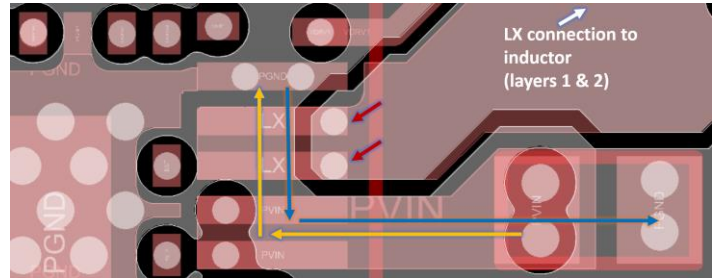

Figure 6: Layout example using layer 2 in parallel with top layer for the LX connection to the inductor (not shown, to upper right)
Sometimes a wide LX trace in the top layer is not feasible yet efficiency must be maximized. In this case, layer 2 (nominally the ground plane) is used to help share the current with a parallel connection to the inductor. Figure 6 shows an example. Use as little of the ground plane as possible as needed to reduce resistive losses. Note that for proper current sharing, the layer 2 copper island should also have vias to the top layer near the inductor.
- 7) If using a layer 2 copper island in parallel with the LX connection to the inductor, is there an uninterrupted path in the ground plane for the return currents under the go currents as per Figure 6?